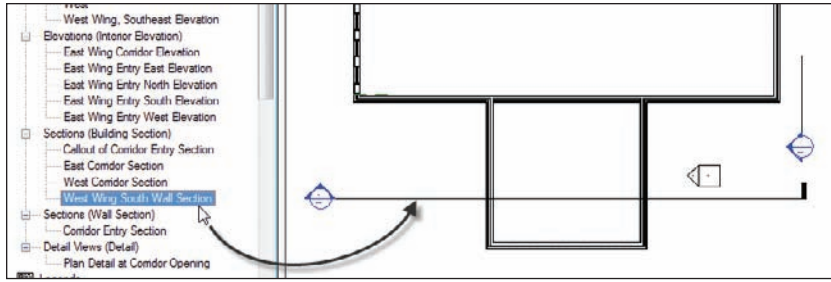

FIGURE 4.35 Open the section called West Wing South Wall Section. It will put you in the section, as shown here.
1. In the Project Browser, open the Sections (Building Section) called West Wing South Wall Section, as shown in Figure 4.35.